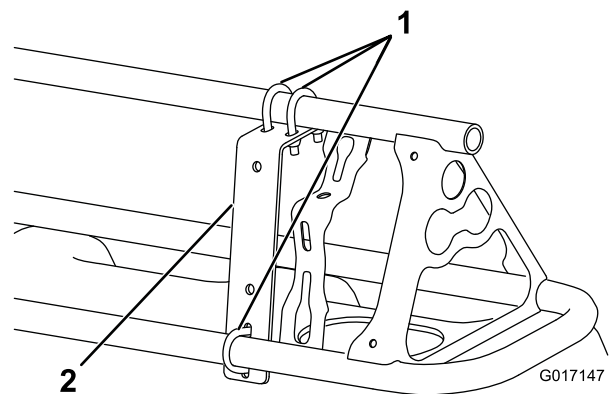
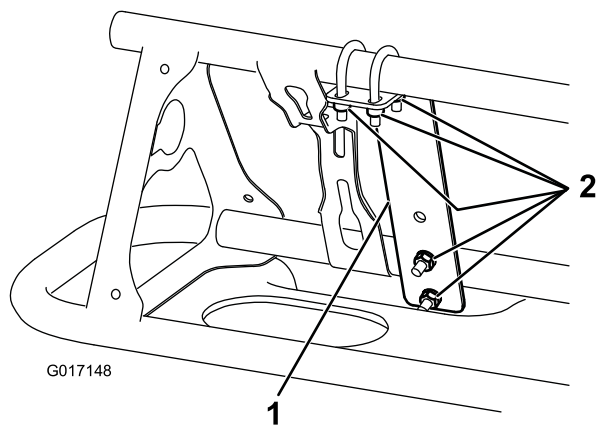

Figure 8
Figure 9
1. Install a mounting bracket on the front side of each boom near the outermost nozzle with 3 U-bolts and 6 locknuts (1/4 inch) (Figure 8 and Figure 9).